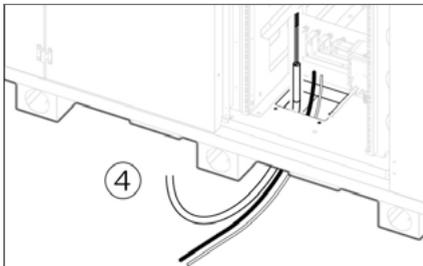

Fig. 8.6 - Cable routing
8. Working from underneath the cabinet, pass all cables through the opening created by the removal of the plate and then into the respective cable glands, bringing them up to the height of the bars (Fig. 8.6).